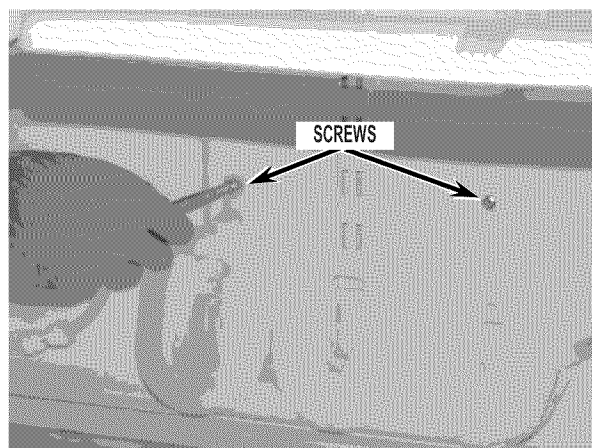

Figure 4
4. Using a 1/4" hex driver, unscrew the water tank while keeping the water lines connected. See Figure 4.